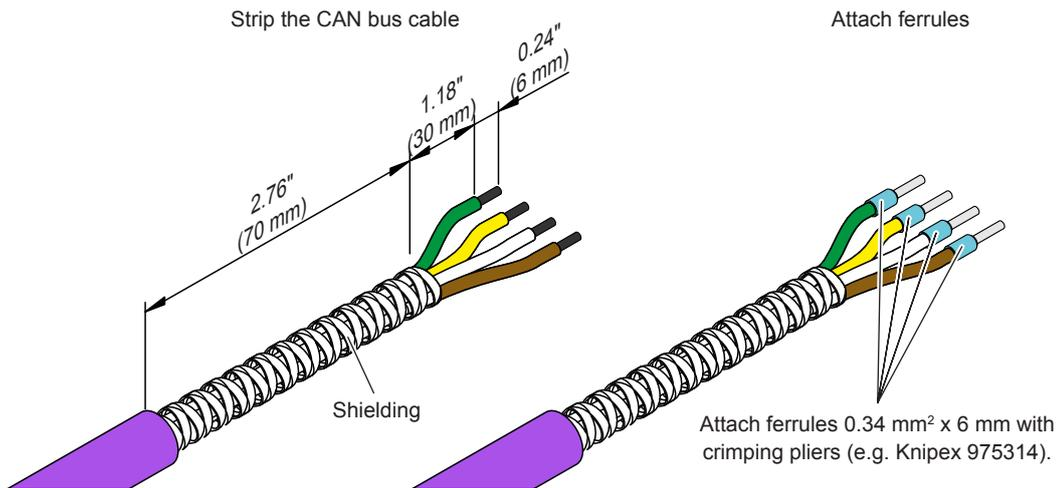

Fig. 27: Prepare cable
3. Prepare the CAN bus cables for connection to the socket according to Fig. 27.